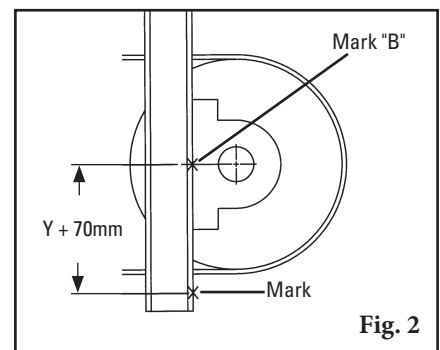

Fig. 2
- 3a. Mark X dimension.** Subtract the above dimension (Step 2a) from the selected X dimension to establish the modified X dimension. With this new X dimension measure horizontally from the front of the pulley shaft forward on Line B and mark on the chute (Fig. 2).
- Measure down the given Y dimension plus 70mm and make a mark (Fig. 2).** This mark indicates the top location of support material to be added for installing the cleaner mounting brackets.